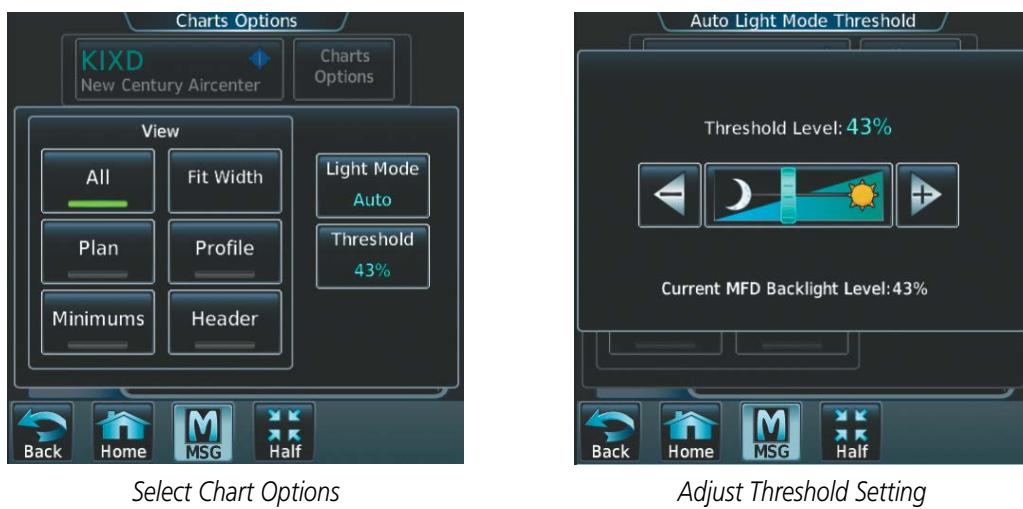

Figure 8-16 Setting Day/Night Switching Threshold
- 4) Touch the **Threshold** button (Figure 8-16). The Auto Light Mode Threshold window is displayed.